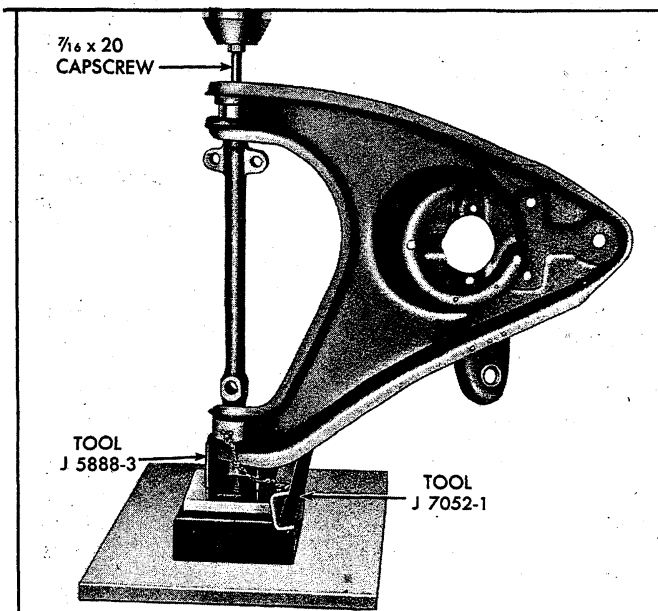

Fig. 35 - Removing Lower Control Arm Cross Shaft Bushing
3. Support control arm in an arbor press on Tool J-5888-3, as shown in Figure 35.